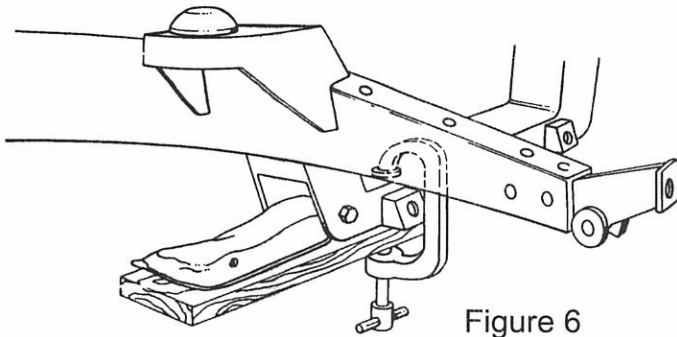

Figure 6
11. If you are using factory lower control arms and strut rods you will continue here. Use the lower control arm and strut rod for locating the rear strut rod supports and gussets. Using a 2 x 4 and a C-clamp, install the control arm as shown in Figure 6.